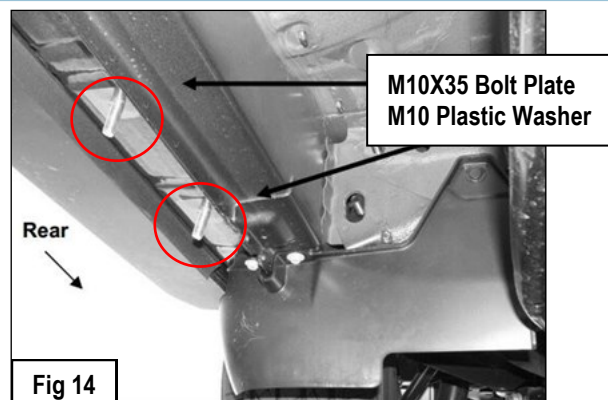

Fig 14
Locate the last (2) round holes at the bottom of body panel. Repeat **Steps 1-3** to install the (2) M10X35 Bolt Plates and Mounting Plate, (Fig 14).